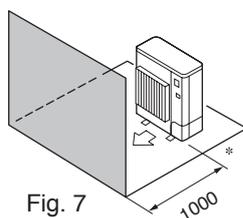

Fig. 7
- (4) Obstacles at front only (Fig. 7)